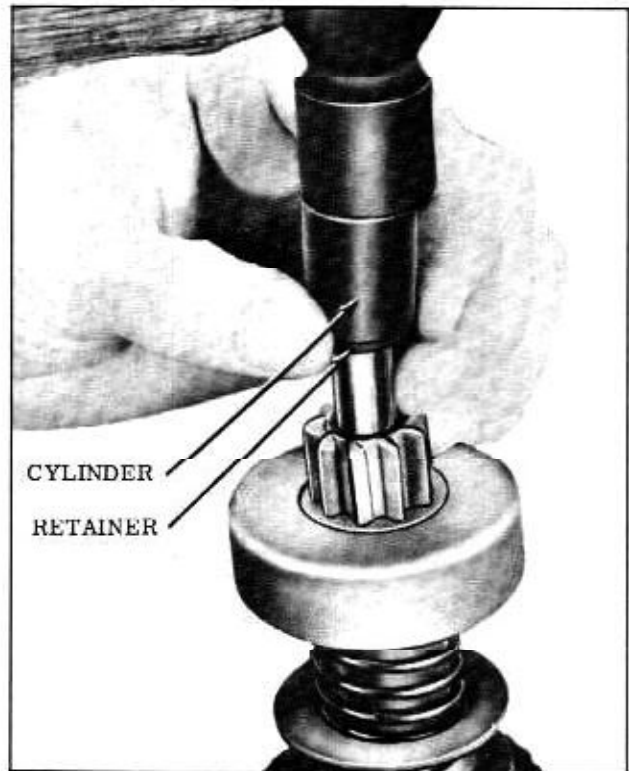

Fig. 13-40 Installing Retainer
- b. Slide a standard half-inch pipe coupling or other metal cylinder of suitable size (an old pinion can be used if available) over shaft against retainer to be used as a driving tool. (Fig. 13-40) With armature shaft supported on wood block, tap end of driving tool until retainer clears snap ring.